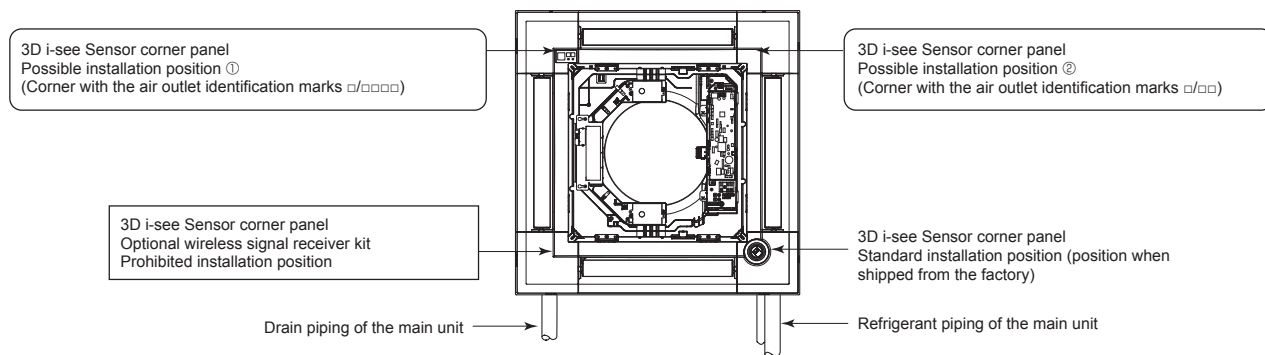

Fig. 6-9
6.5. Installation of 3D i-see Sensor corner panel (Fig. 6-9)